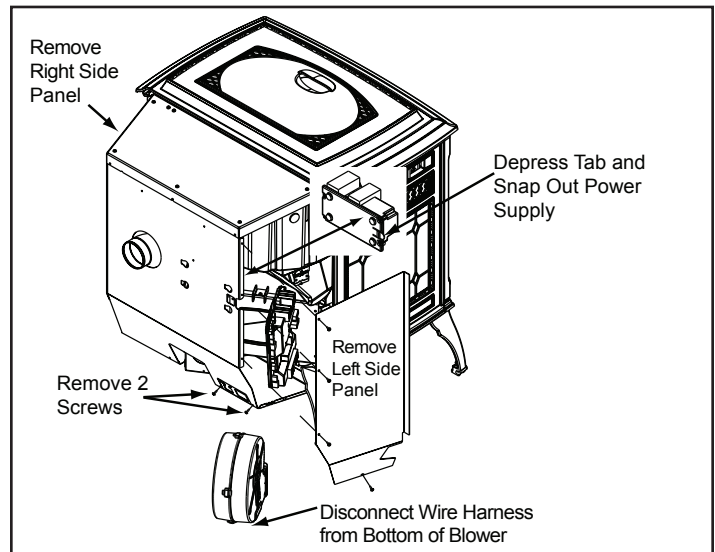

Figure 30.1
2. Remove the left and right side panels by removing the 4 screws using a Phillips head screw driver. **Figure 30.1.**
3. Depress the tab on the left side and snap out the power supply. You do not need to disconnect any wires. **Figure 30.1.**
4. Remove the 2 screws at the bottom of the back panel so there will be room to remove the blower. **Figure 30.1**
7. Disconnect the wire harness from the bottom of the blower by depressing the tabs on the sides of the connector and then pulling to remove. **Figure 30.1.**